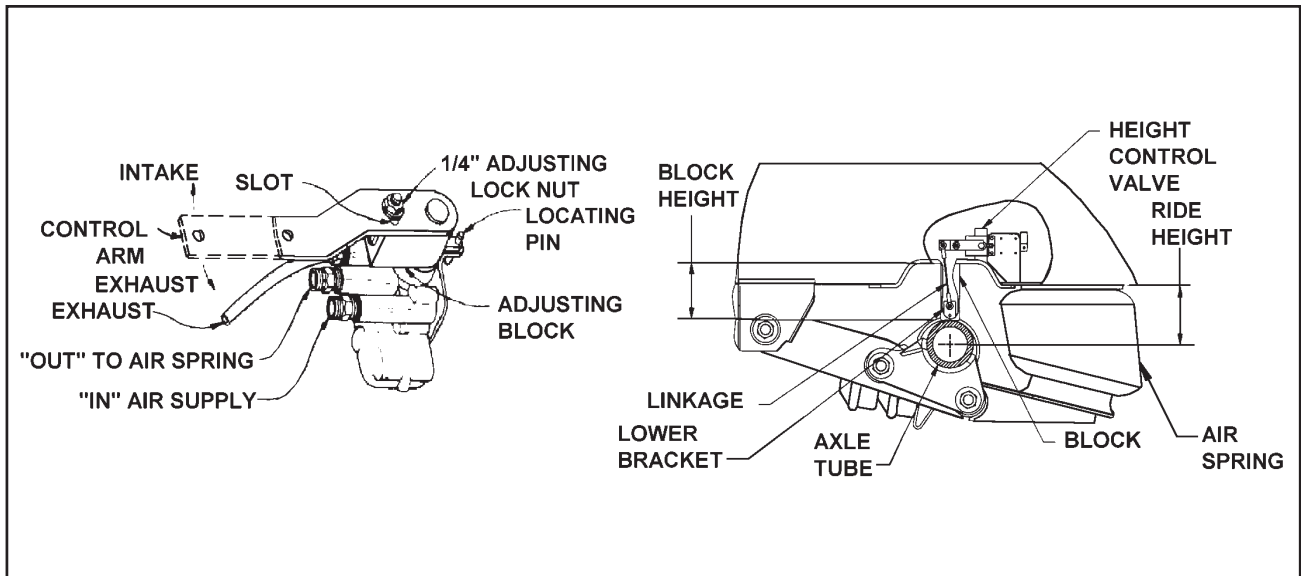

Figure 4-6 Air Ride Height Adjustment
### 4-6.2 Tandem Axle Air Ride Height Adjustment. (See Figure 4-6 for parts identification).
- Disconnect linkage at the control arm and raise control arm to the "up" position, raising the trailer until a block can be placed between axle tube and undercarriage frame (See Figure 4-6).
- f. Loosen the ¼" adjusting lock nut located on the adjusting block, allowing the control arm to move approximately 1 inch. Move the adjusting block until holes align, then insert locating pin. (See Figure 4-6).